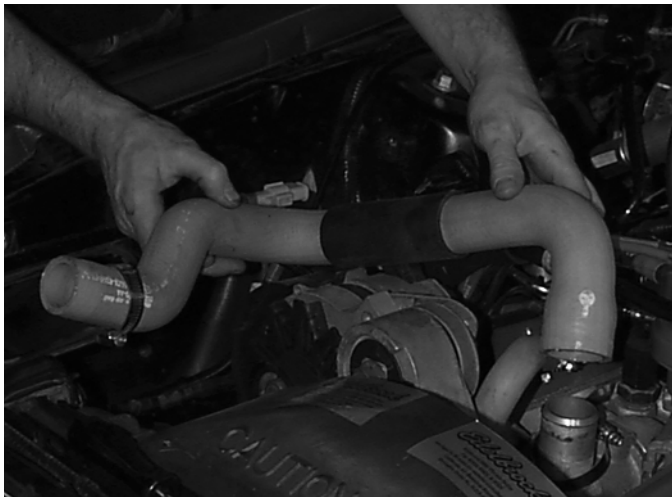

Fig. 1-a
- C. Using a 8mm socket & ratchet or screw driver, loosen the clamps and remove the upper radiator hose from the vehicle (save for re-use). (See Fig. 1-a.)